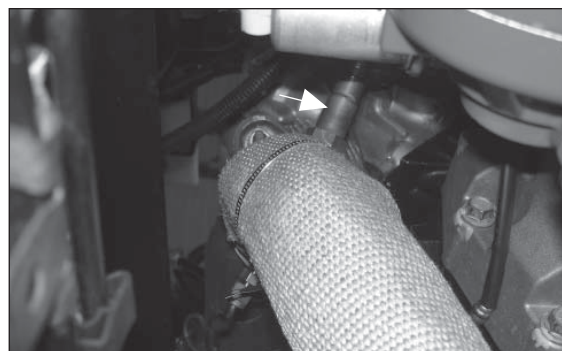

Figure 73
1. Locate the Ford O2 sensor located on the inside of the vertical exhaust pipe, located on the PTO side (approximately 3-4 inches above the top of the PTO) (Fig. 73).